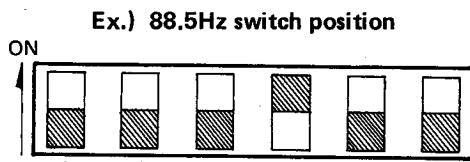

Fig. 1 DIP Switch
- A six position DIP switch (Fig. 1) has been provided to allow selection of the desired tone frequency, 40 different frequencies are available (See Table 1.). Use the DIP switch and Table 1 to select the desired tone frequency.